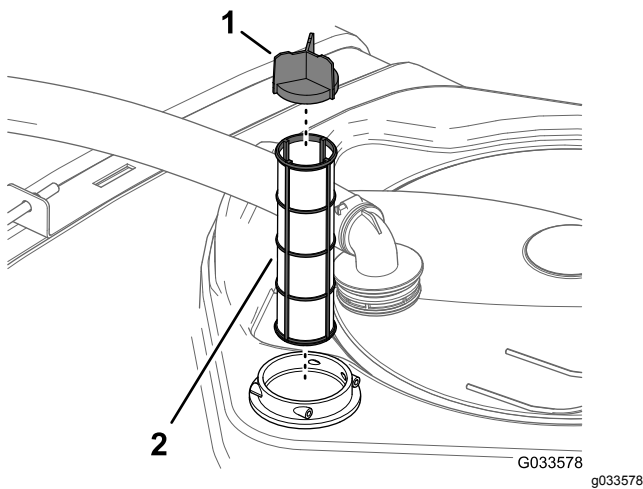

Figure 105
4. Remove the old suction filter from the filter housing in the tank (Figure 105).